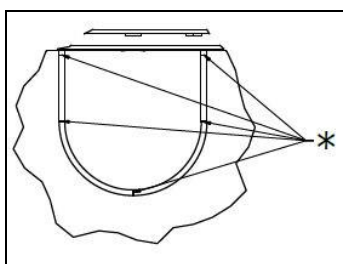

Figure 6
- Using pliers, cut the thin strips holding the cover on the rear of the stove (Figure 6).